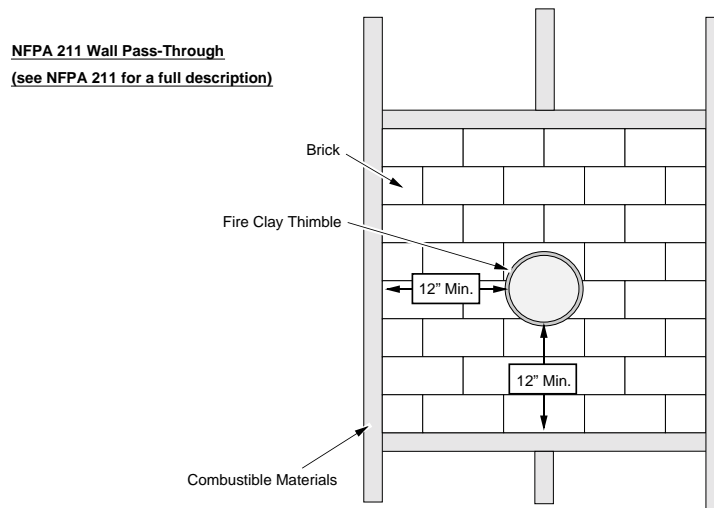

Figure 6
- In cases where the chimney connector must be passed through a combustible wall or partition, the following NFPA 211 method may be used if local building codes permit. Check with local authorities before installation to insure all necessary requirements have been met. Figure 6 details a wall pass-through based on the NFPA 211 standard.